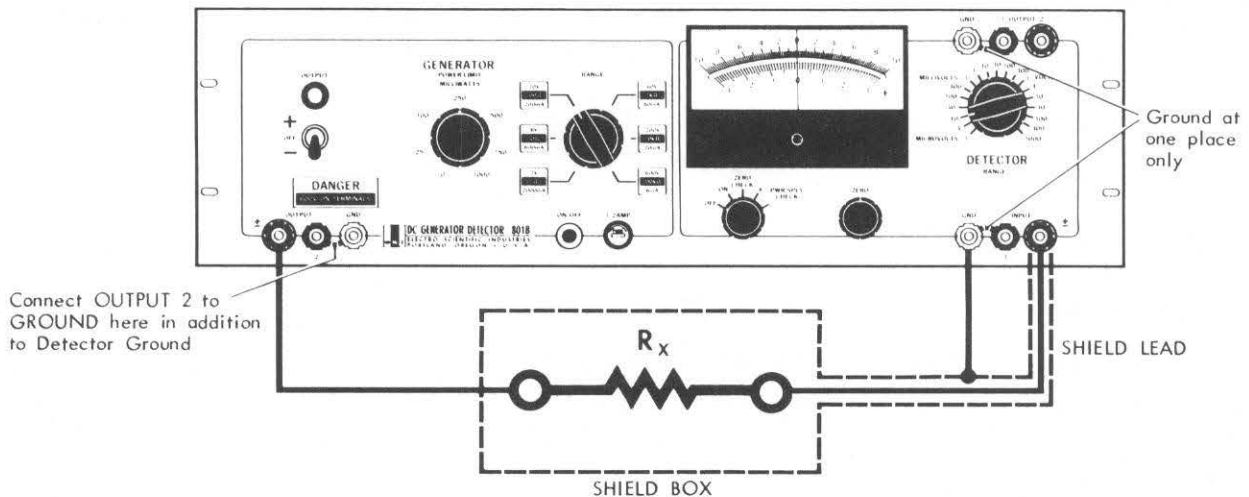

Figure 2-6. High-Resistance Measurement
To measure the approximate value of a very high resistance, such as the leakage in an insulator, use the circuit shown in Figure 2-6.
4. Connect the unknown resistance R_x in the circuit of Figure 2-6.